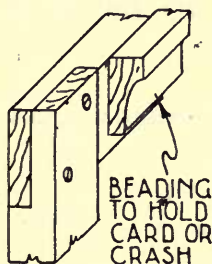

**FIG 7**
**BACK FRAME** (Fig. 7).—Prepare to finished sizes—top rail  $5' 0'' \times 3'' \times \frac{3}{4}''$ ; bottom rail  $5' 0'' \times 2'' \times \frac{3}{4}''$ ; two stiles  $2' 3'' \times 2'' \times \frac{3}{4}''$  and one muntin  $2' 0'' \times 2'' \times \frac{3}{4}''$ . Set out, cut, fit, clean inner faces and glue up, again taking care to keep frame square and flat. Put aside to set.
This puppet theatre is both a piece of valuable educational apparatus and also a great source of interest and amusement to children. It consists of front and side framing, two wings, a stage and a spacing bar. To the front framing (Fig. 1) are hinged the two side frames (Fig. 2) which may be folded inwards (Fig. 4) when the theatre is not in use. The stage (Fig. 3) is a loose board notched to drop on the middle rail. Around its front edge is tacked a pleated linen, hessian or crash curtain, which is repeated on the top rail. One of the two wings is shown in Fig. 5. The spacing bar (Figs. 4 and 6) rests on the side frames and has two metal clips (Fig. 7(a)) to hold the frames open. Two brackets (Fig. 7(b)) are attached to the side frames to hold back-drops, etc.